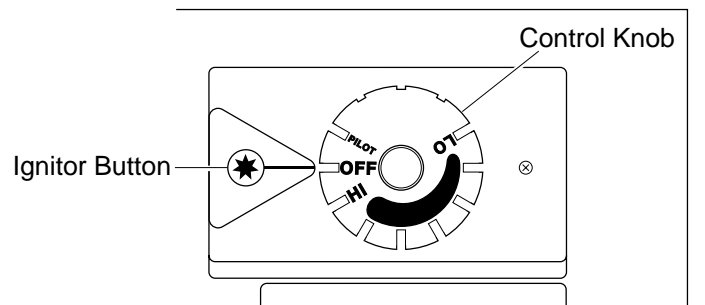

Figure 22 - Control Knob In The OFF Position
4. Wait five (5) minutes to clear out any gas. Then smell for gas, including near the floor. If you smell gas, STOP! Follow “B” in the safety information at the top of page 19. If you don’t smell gas, go to the next step.
5. Turn control knob counterclockwise  to the PILOT position. Press in control knob for five (5) seconds (see Figure 22, page 20).